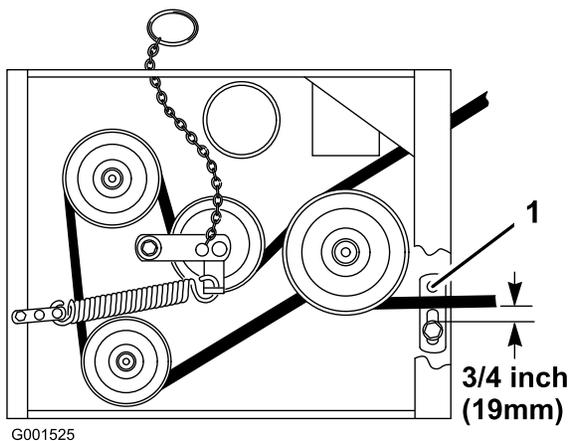

Figure 47
- Check the belt guide under the engine frame for proper adjustment (Figure 47).
Note: The distance between the belt guide and the mower belt should be $3/4$ inch (19 mm) when you engage the mower belt (Figure 47). Adjust the mower belt as necessary. The disengaged belt should not drag or fall off the pulley when the guides and belt tension are properly adjusted.